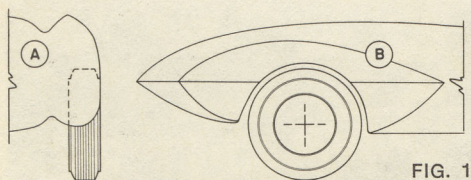

FIG. 1
(Fig. 1)—Fully exposed front wheels (B) may be placed flush with the fender edge (A).